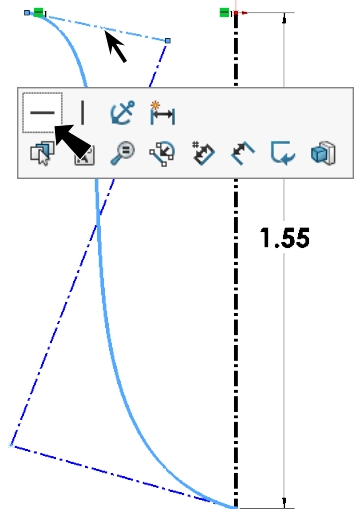

Fig. 5
Step 11. Click **top control polygon segment** and click **Make Horizontal**  on the context toolbar, Fig. 5.